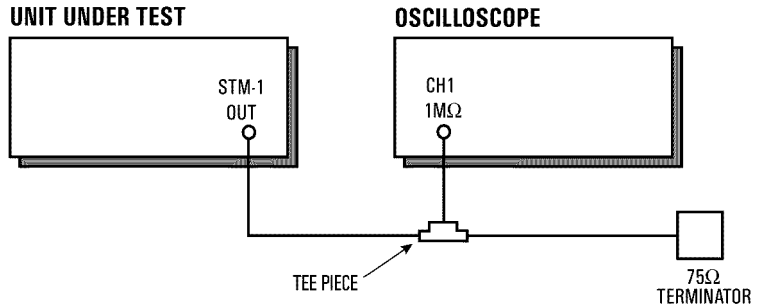

Figure 3-4 STM-1/STS-3 Transmitter Output Waveshape Test Setup
- 1 Connect up the equipment as shown in Figure 3-4 and recall the OmniBER default settings as shown on page 3-4.